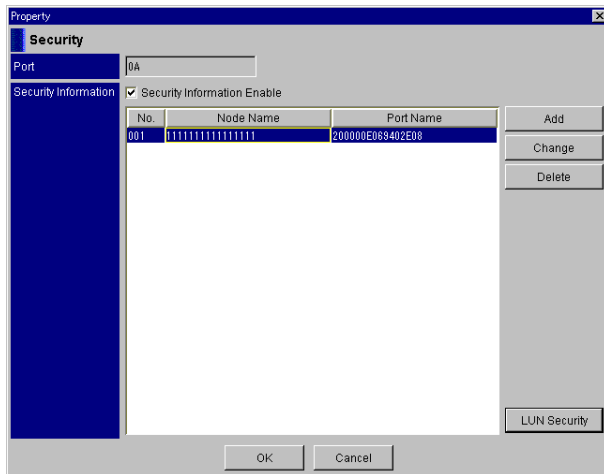

Figure 4.10 Security Property Panel (Delete the WWN of the Host HBA)
4. From the **Settings** menu of the Array System Viewer panel, select **Modify Security** (refer to Figure 4.10).
5. Click the security **No.** to delete the security information among those ports displayed in the **Security Information** box. Click the **Delete** button (see Figure 4.10).